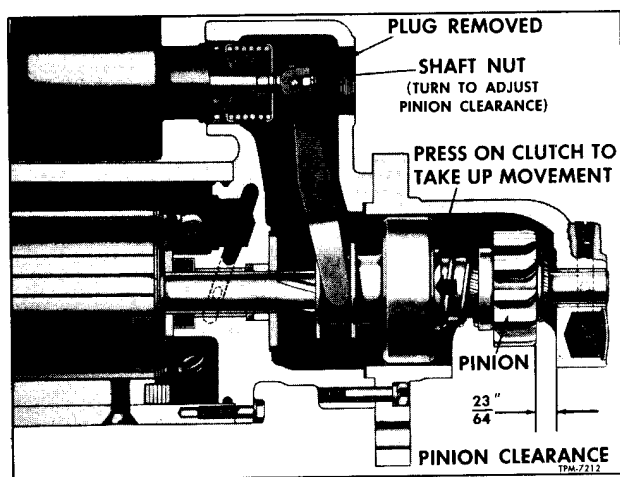

Figure 8—Pinion Clearance Check and Adjustment
2. With solenoid energized and drive clutch shifted toward the nose housing, push the pinion back toward armature to take up slack, then check clearance between the pinion and nose housing (fig. 8). Adjust nut on solenoid plunger rod as necessary to obtain the proper clearance of 23/64 inch. After correct adjustment is obtained, install access plug and gasket in shift lever housing.